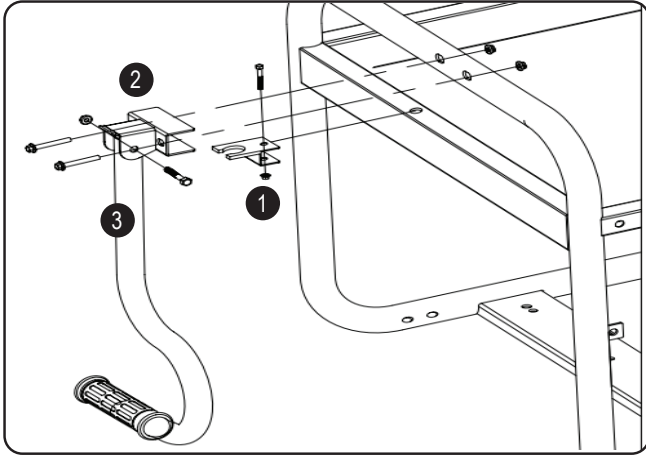

Fig 3
## Handle Assembly (See fig 3)
- 1 Install handle lock holder by inserting bolt and lock nut. (fig 3)